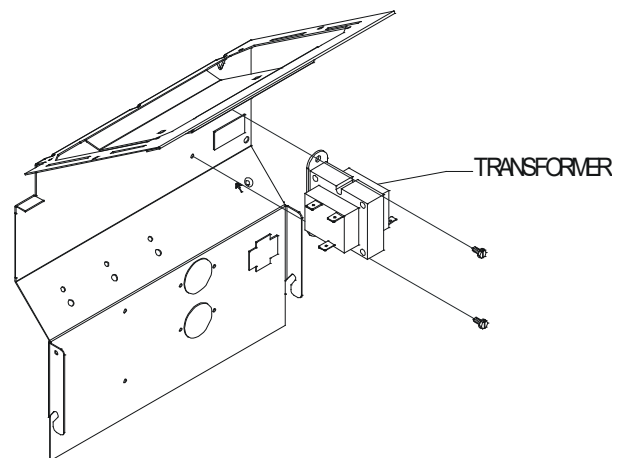

Figure 3
- Using the two #8 screws that are provided, screw the transformer that was provided with the kit to the control panel in the transformer mounting holes provided in the panel. See Figure 3.